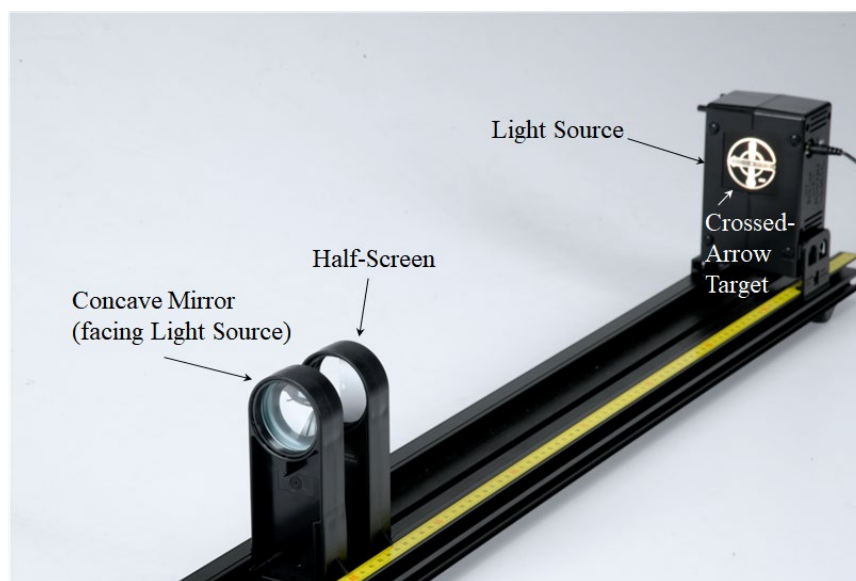

Figure 1: Equipment Setup
1. As shown in Figure 1, mount the Light Source at one end of the Optics Bench. Place the Concave Mirror at the other end of the Optics Bench at the farthest ruler mark possible. The crossed-arrow target shape on the light source should face toward the mirror, and the concave surface of the mirror should face toward the light source. See Figure 1.
2. Place the Half-Screen a few centimeters in front of the concave mirror (between the mirror and the light source), as shown in Figure 1.